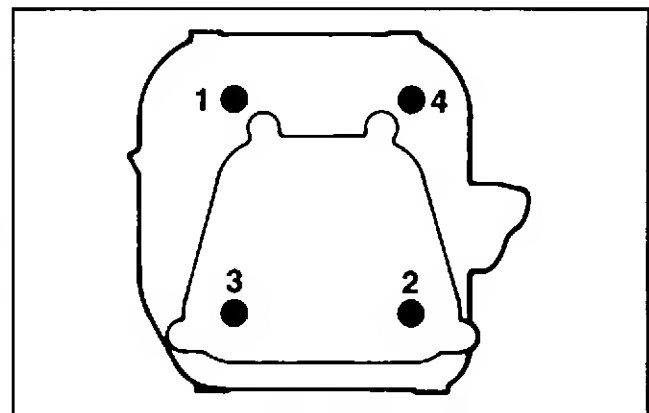

Figure 11-20. Cylinder Head Fastener Tightening Sequence.
2. Install the cylinder head and tighten the hex. flange screws in several increment in the sequence shown in Figure 11-20 to **22.6 N•m (200 in. lb.)**.